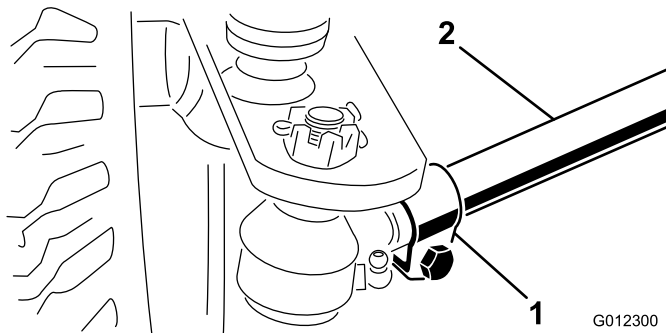

Figure 36
2. Loosen the clamps at both ends of the tie rods (Figure 36).